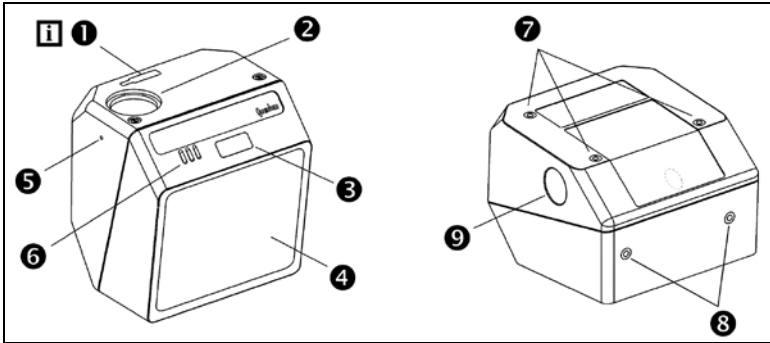

Figure 1a. Scanner Components
1. Locate the small 'pinhole' on the side of the QuantumE near the cable (*item 5 in figure 1a*).